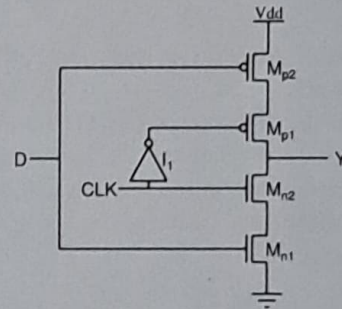

Figure 5
5. (a) Briefly explain setup and hold time for the clocked CMOS latch shown in Fig. 5. How can setup and hold time violations be fixed post fabrication? [2]